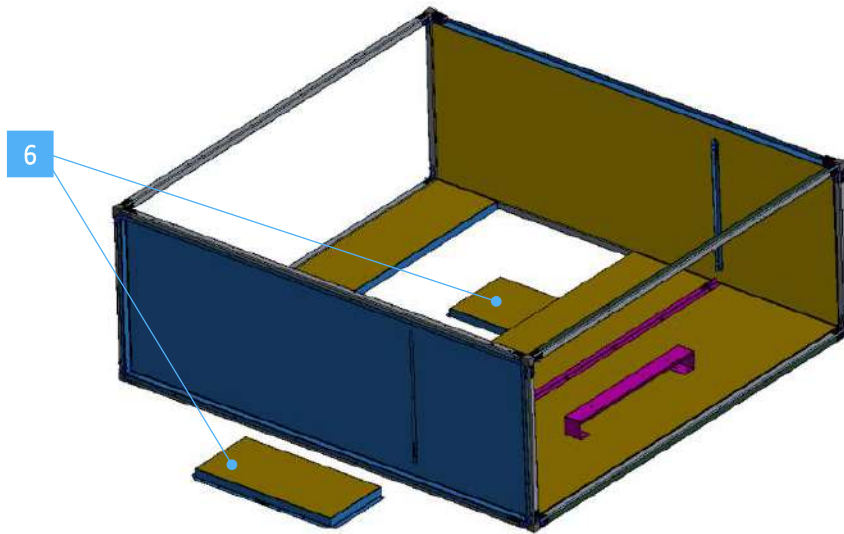

Fig. 8 *Bottom lateral panels assembly.*
- 5 Insert the protruding part of the headlight assembly [9] into the appropriate opening in the front panel [8] (red arrows in figure 8) and fix them using the supplied M5 screws.